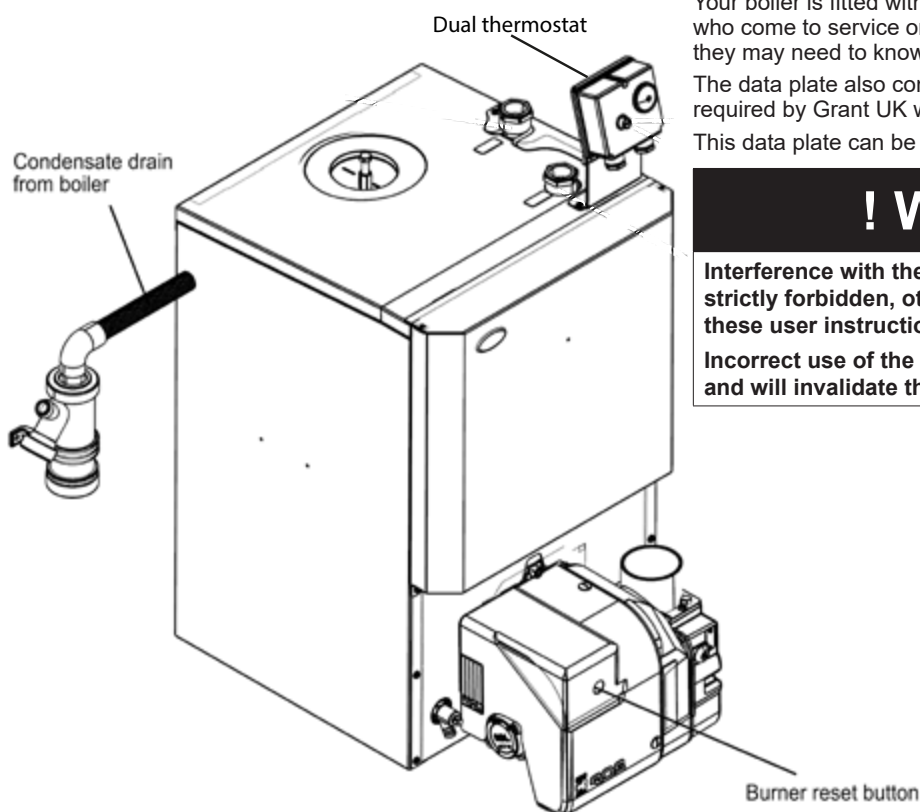
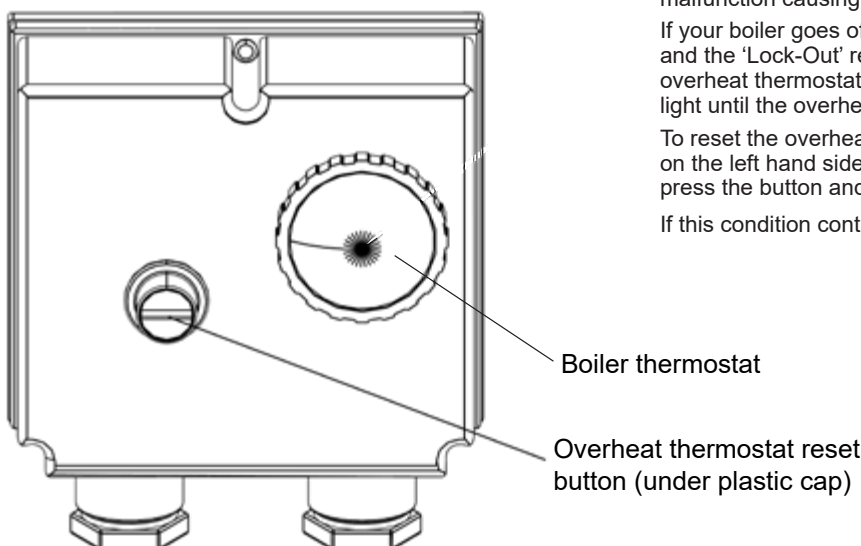

Figure 1-1: Boiler components (model shown: 26/35kW)
Figure 2-1: Dual thermostat
The temperature of the water leaving your boiler to heat your property is controlled by the boiler thermostat (see Figure 2-1), which is located on the boiler dual thermostat (see Figure 1-1).
Refer to Figure 1-1 for the dual thermostat's location on the Grant Vortex Boilerhouse boilers.
4. Check if the burner 'Lock-Out' reset button on the burner body (refer to Figure 1-1 for location) is lit.
Refer to Figure 1-1 for the location of the dual thermostat on the boiler casing and Figure 2-1 for the details of the dual thermostat.
To reset the overheat thermostat, unscrew the small plastic cap on the left hand side of the dual thermostat (see Figure 2-1), press the button and replace the cap.